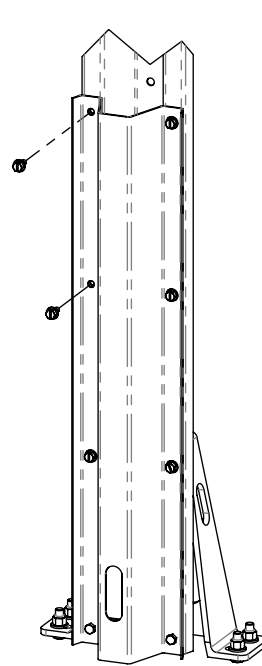

Figure 5
5. Install leg support with slot at bottom. Secure with 3/8"-16 x 3/4" thread cutting screws [6] places, as shown in Figure 5. Use 3/8"-16 x 1-1/4 bolts, lock washer, and nut for lower two holes.